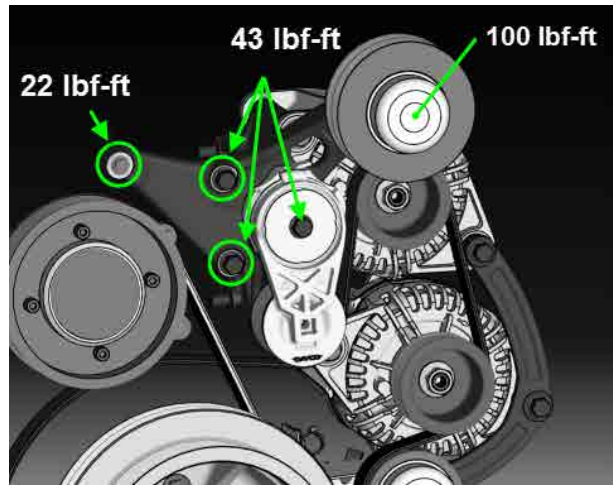

FIGURE 28
20. Reinstall the A/C compressor idler pulley bracket assembly (**FIGURE 28**). Apply Loctite 243 on threads. Reinstall the A/C compressor belts.